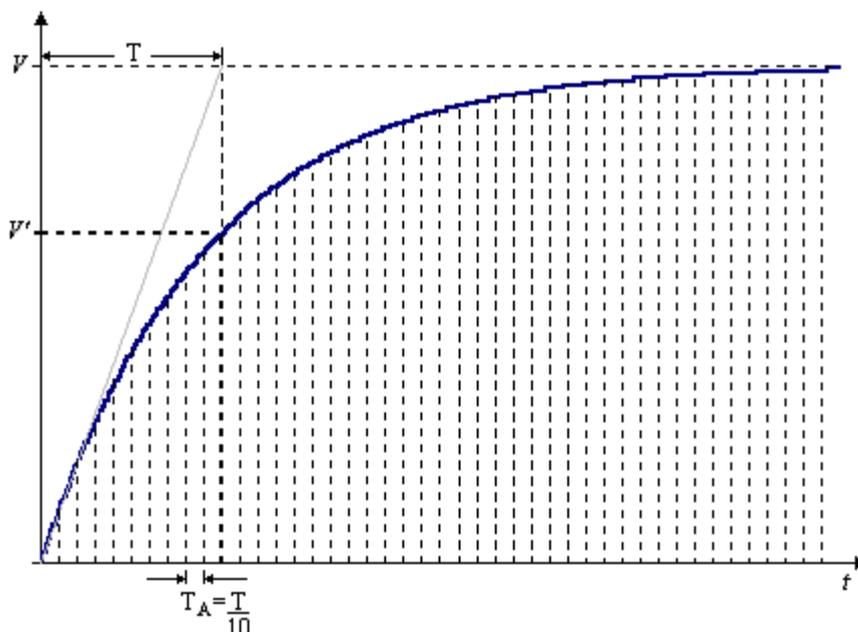

Figure 6-19. Obtaining the Time Constant
Example: The time constant of a first order system can be obtained from its response graph of the manipulated variable (MV) to one step in the setpoint SP with open loop control (PID disabled or mode manual), according the Figure 6-19.
Figure 6-19 shows the obtaining of the time constant of the system using two different modes. The most common is taken as the system time constant the time required for the system to reach 63.212% of the final value. Another way is to plot the first derivative of the step response curve, the time constant is the one where this line crosses the final value of the system response.